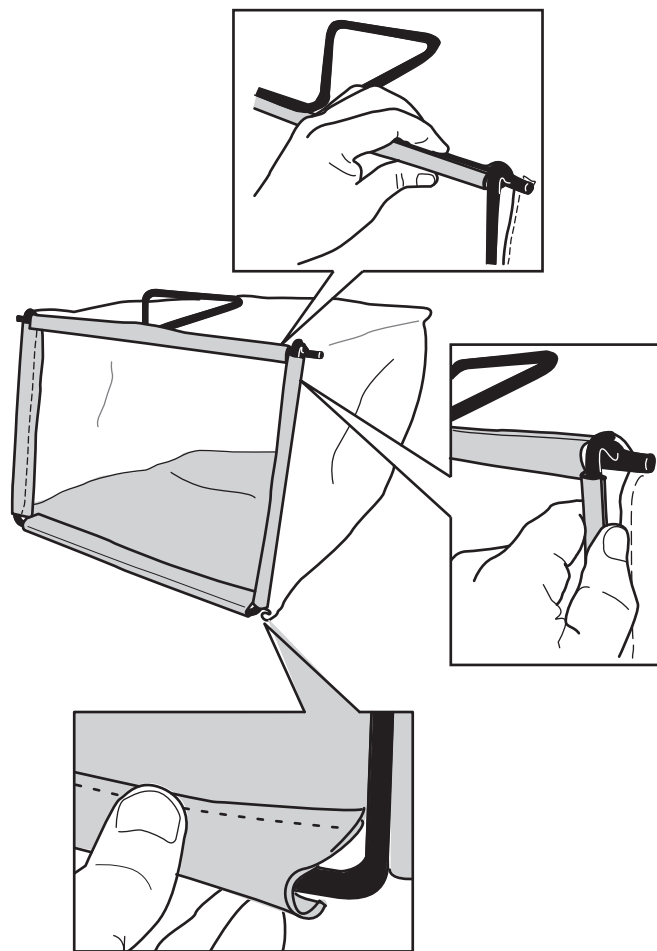

Figure 7
2. Hook the bottom channel of the bag onto the bottom of the frame (Figure 7).
3. Hook the top and side channels of the bag onto the top and sides of the frame, respectively (Figure 7).